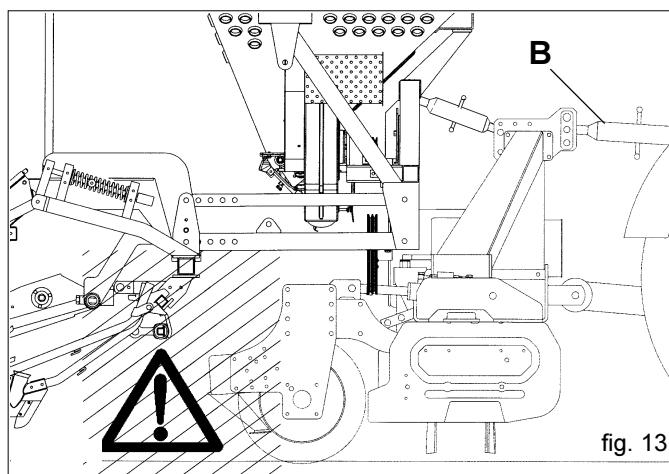

fig. 13
- 4) Check that there is no interference between the mechanical parts of the two machines, before lifting the equipment to hook onto the seeder. Particularly check the area between the rear roller and the arms of the sowing teeth (Fig. 13).
- 7) Lower the lift and place the combined equipment in an operating position. Check that all the sowing parts oscillate freely, including the drive wheels and the seed-covering harrow. Check that the equipment is in the correct position, perpendicular to the ground, and if necessary move the third-point of the equipment (B Fig. 13).